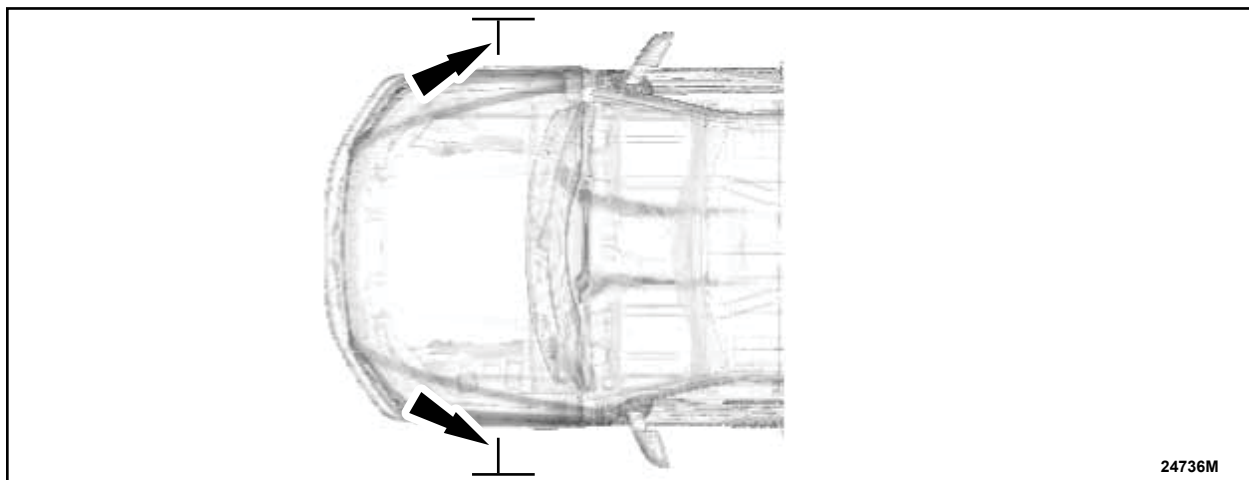

FIGURE 5
9. Create front axle alignment guidelines. See Figure 5.